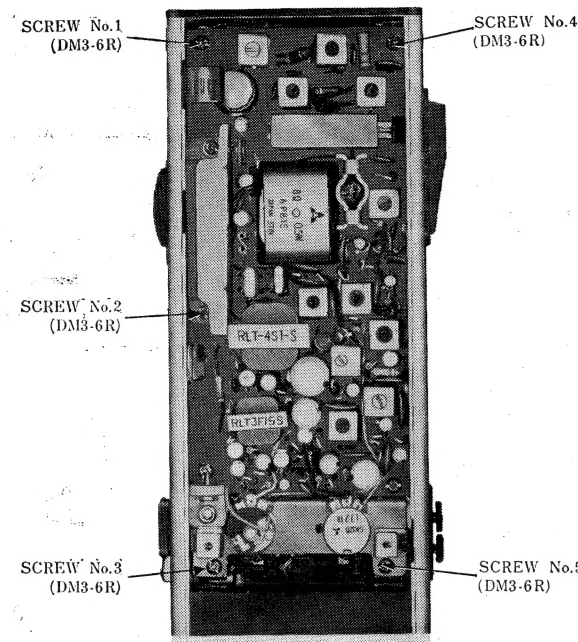

Fig. 4
5. Remove five (5) red chassis mounting screws, Nos. 1~5, as illustrated in Fig. 4.